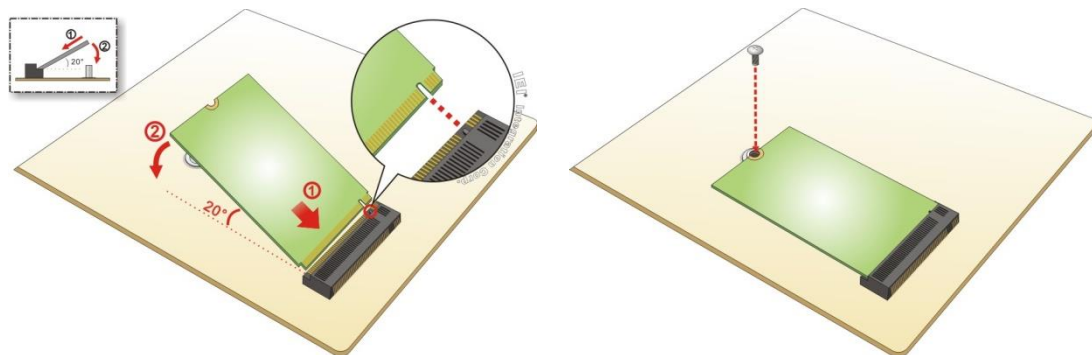

Figure 3-4: M.2 SSD Installation
Step 4: Line up the notch on the M.2 SSD with the notch on the connector. Slide the M.2 SSD into the socket at an angle of about 20° (**Figure 3-4**).
Step 5: Secure the M.2 SSD with the retention screw. Push the other end of the M.2 SSD down and secure the card with the previously removed retention screw (**Figure 3-4**).